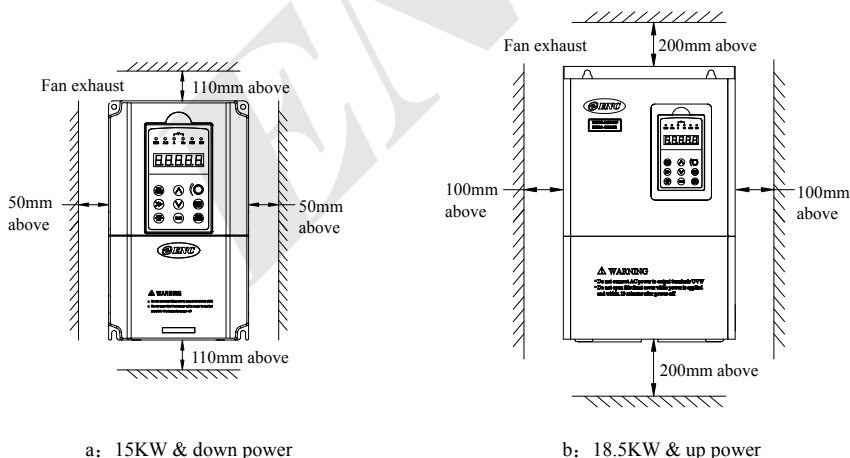

Fig.3-1 Mounting space
- (1) Normally the inverter should be mounted vertically, horizontal mounting will seriously affect heat dissipation and the inverter must be used in lower volume.
- (2) Demand for minimum mounting space and distance, please see Fig.3-1.